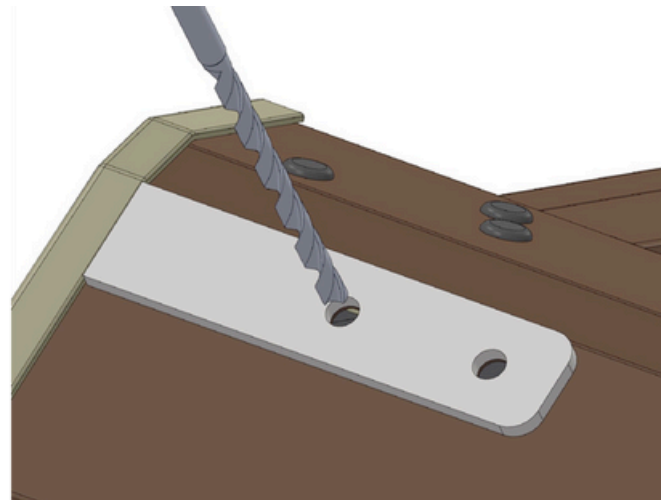

Fig. 3
- 2) Customize a template [h] to the edge of the upper (transverse) sheet of the window cladding (Fig.2). Then drill 2 holes with a Ø 6 drill bit. Turn the template over and repeat in the opposite corner (Fig.3)